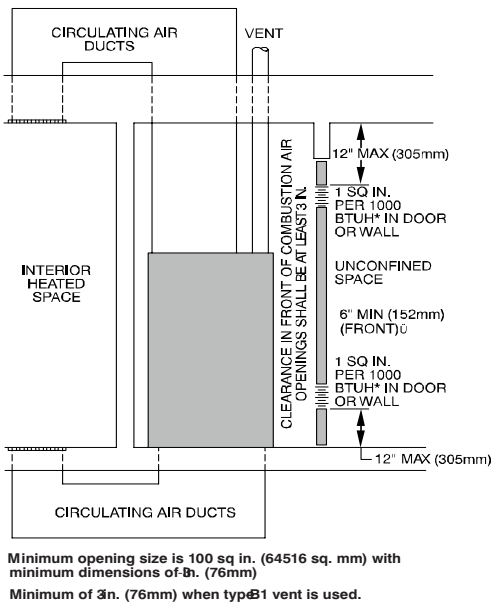

Fig. 7 – Air for Combustion, Ventilation, and Dilution from Indoors
- Combining spaces on same floor level. Each opening shall have free area of at least 1 in.²/1,000 BTU/h (2,000 mm²/kW) of the total input rating of all gas appliances in the space, but not less than 100 in.² (0.06 m²). One opening shall commence within 12 in. (300 mm) of the ceiling and the second opening shall commence within 12 in. (300 mm) of the floor. The minimum dimension of air openings shall be at least 3 in. (80 mm). See Fig. 7.